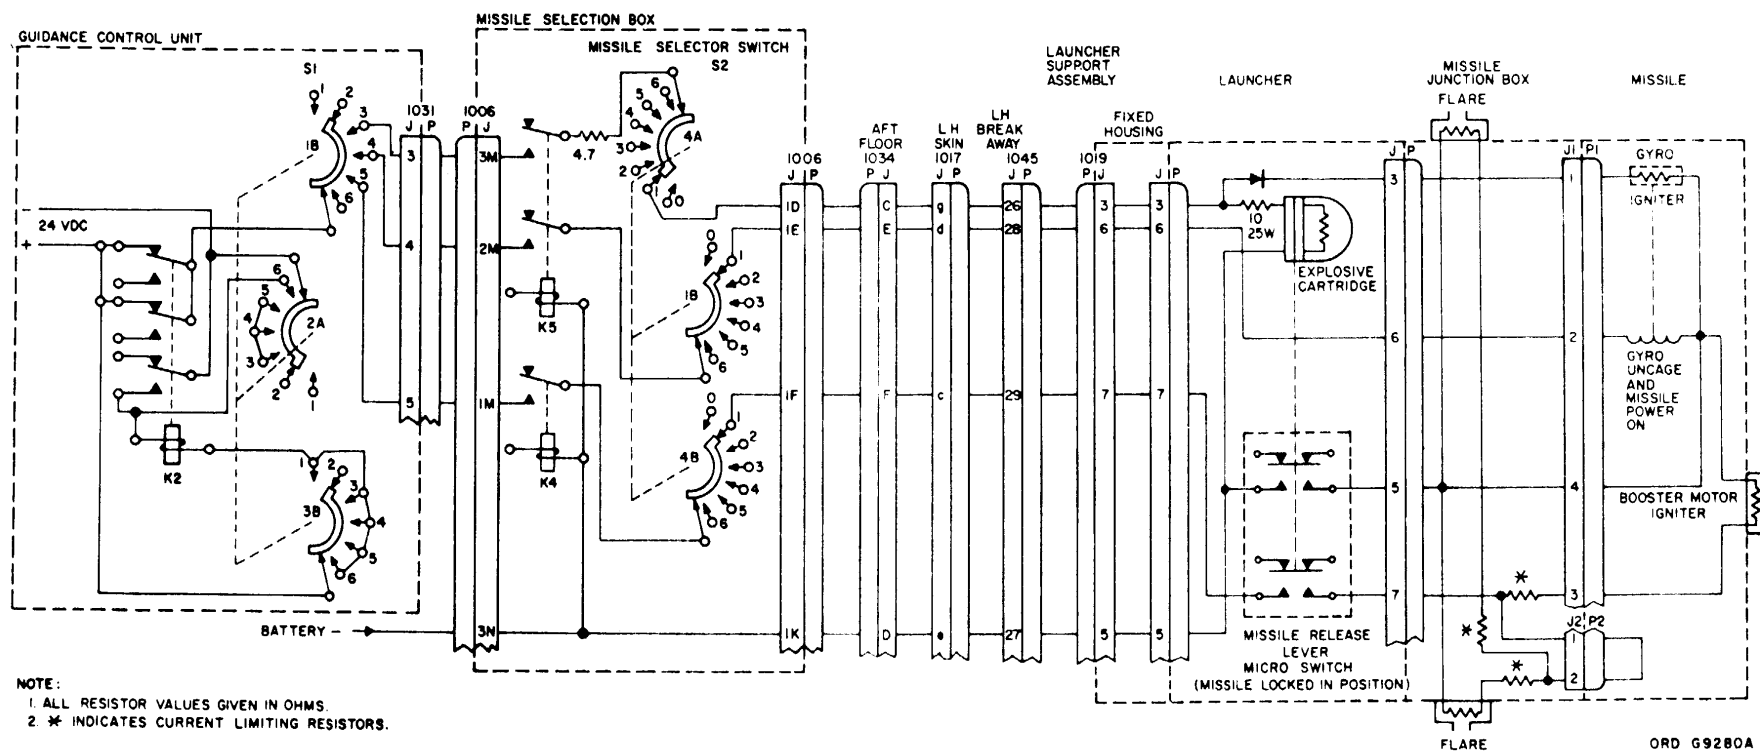

Figure 13. Firing sequence (functional schematic).
17. Firing (fig. 13)
Figure 13 shows the three firing circuits. The FIRING switch in the OFF (0) position and number 1 missile selected for firing, are shown in this figure. Actuation of the firing switch by the remote firing switch (located on the arm rest assembly) starts the firing sequence. The spring-loaded firing switch rotates through the IG, UG, FB, and F positions, applying 28 vdc.